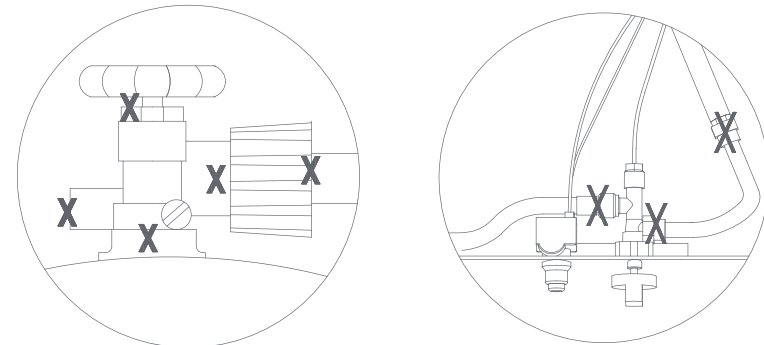

Figure 1
2. Make sure control knobs are in the “O” position (Figure 1).